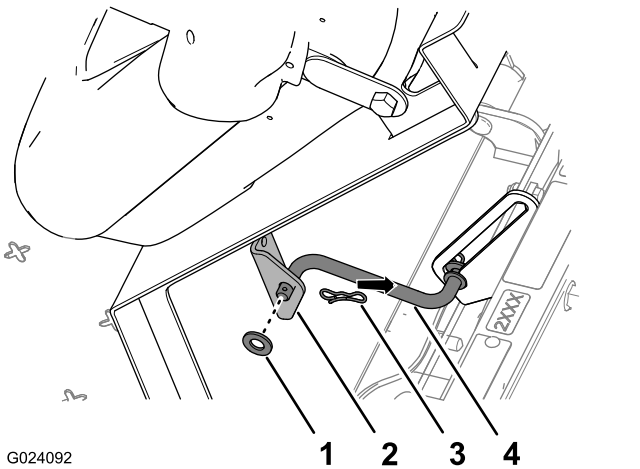

Figure 6
2. Remove the hairpin that secures the prop rod to the bracket at the bottom of the seat plate (Figure 6).